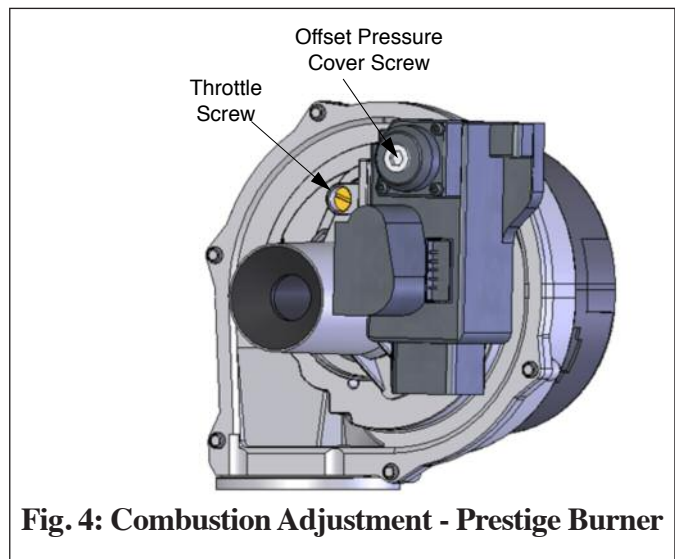

Fig. 4: Combustion Adjustment - Prestige Burner
2. If the combustion levels during High fire are outside the recommended combustion settings adjust the THROTTLE SCREW (see Fig. 4) as follows:
4. If the combustion level at Low fire is not within +/- 0.2% of the combustion level measured at High fire, remove the offset cover screw and adjust the plastic **OFFSET SCREW** using a T-40 Torx wrench (see Fig. 4) as follows:
6. If the combustion levels during High fire are outside the recommended combustion settings adjust the **THROTTLE SCREW** (see Fig. 4) as follows:
8. If the combustion level during Low fire is not within +/-0.2 of the combustion level measured at High fire, remove the offset cover screw and adjust the plastic **OFFSET SCREW** (see Fig. 4) using a T-40 Torx wrench as follows: